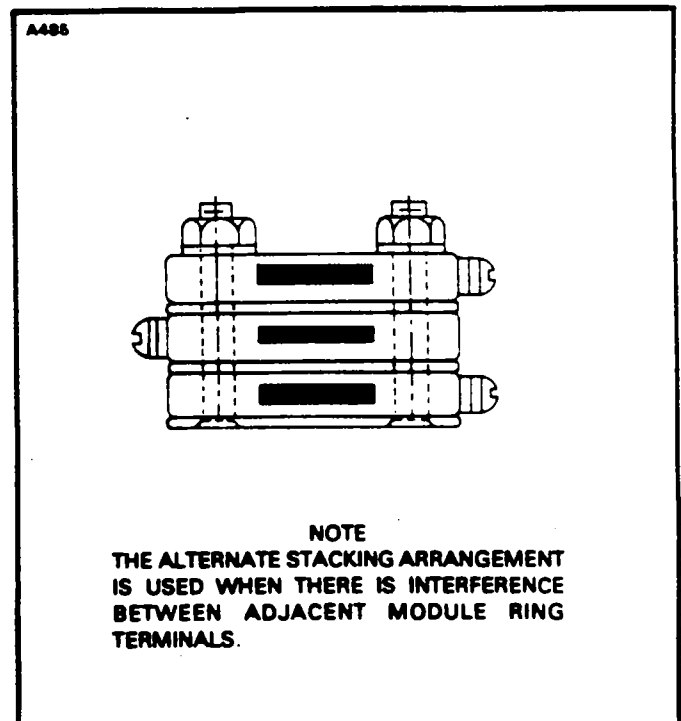
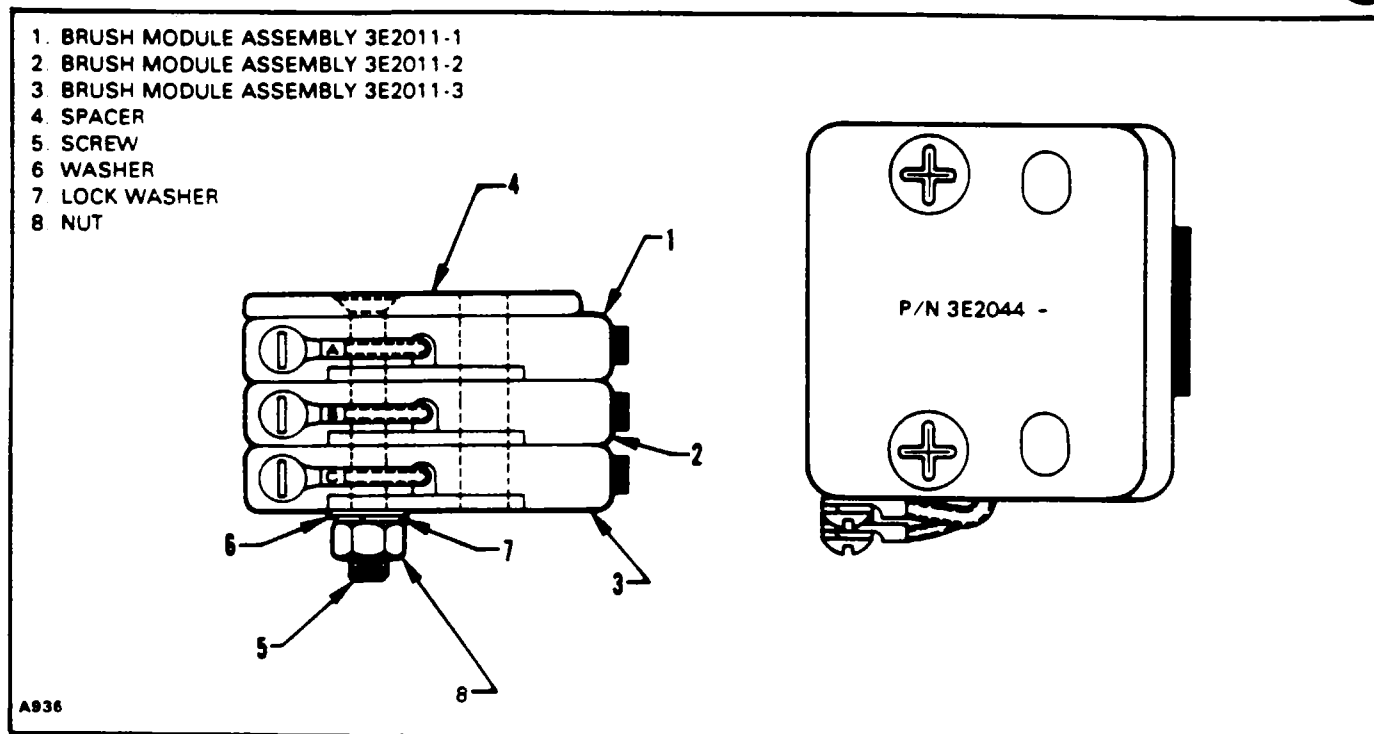

Figure 30-15. Alternate Module Stacking Arrangement
Figure 30-16. Modular Brush Assembly (3E2044-1)
3. Restack modules and spacers as shown in Figure 30-16. If there is interference between adjacent ring terminals, reorient center module as shown in Figure 30-15.